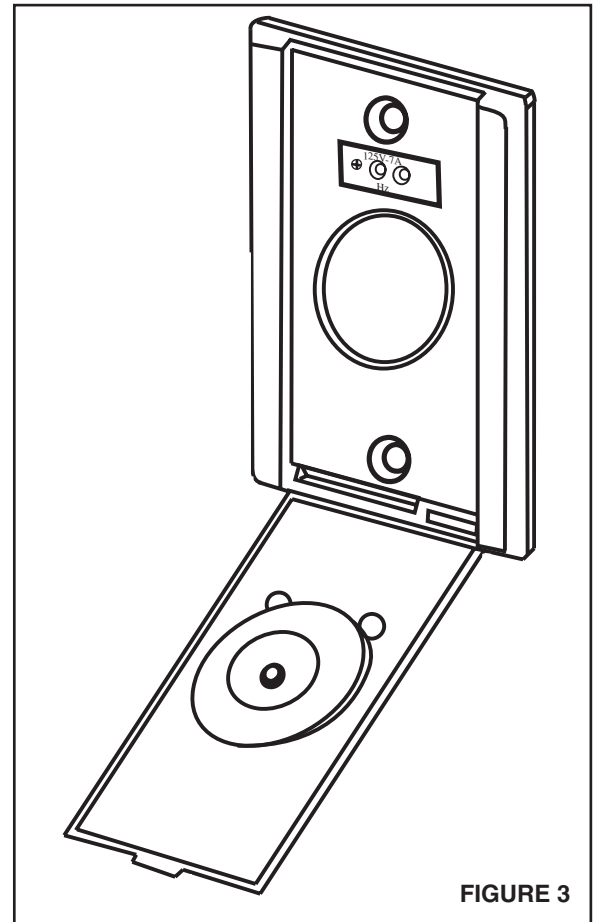

FIGURE 3
6. Snap in the replacement plug by inserting it into the two retaining clips on the rear of the inlet, sliding it down until it snaps into the square hole in the inlet face. NOTE: The plug is designed to be installed with the narrow opening upwards and with the 125V 7 AMP ungraving on the front in a vertical position (Fig. 3). When snapping the plug into the inlet wings, moisten or lubricate slightly for easy insertion. Secure the inlet using the original screws in the same position. DO NOT OVERTIGHTEN.